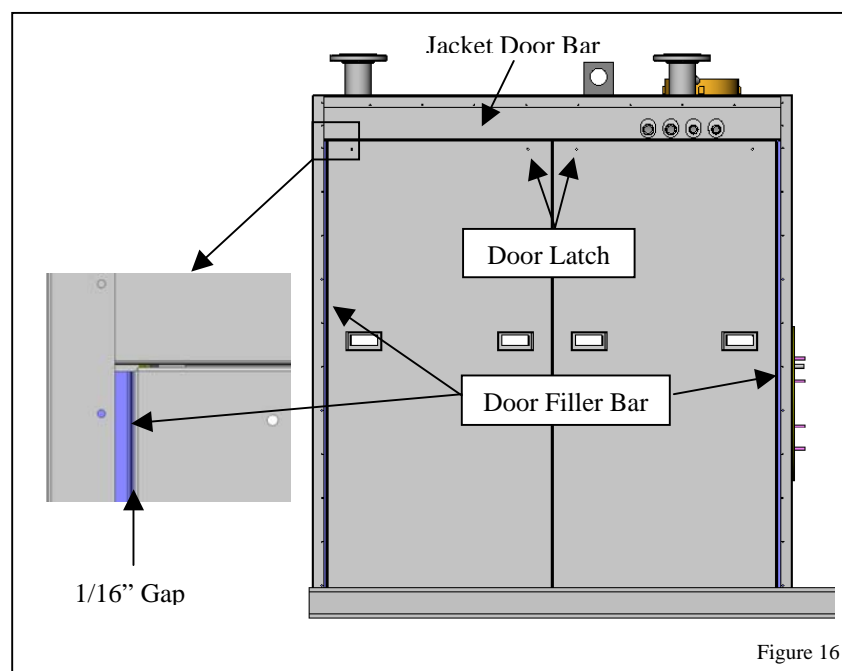

Figure 16
- 4.7 Install Door Bar by sliding it between the yellow insulation wrap and jacket Top, Front and Rear. Secure Door Bar in place with provided sheet metal screws. See Figure 16.
- 4.8 Install both Jacket Door Filler bars but do not screw into place. Install all jacket Doors with a 1/16" gap and lock door latches. Square door Filler Bars by means of the door side in addition to about a 1/16" gap and screw Filler bars into place. Unlock door and confirm doors can be removed smoothly and easily. See Figure 16.